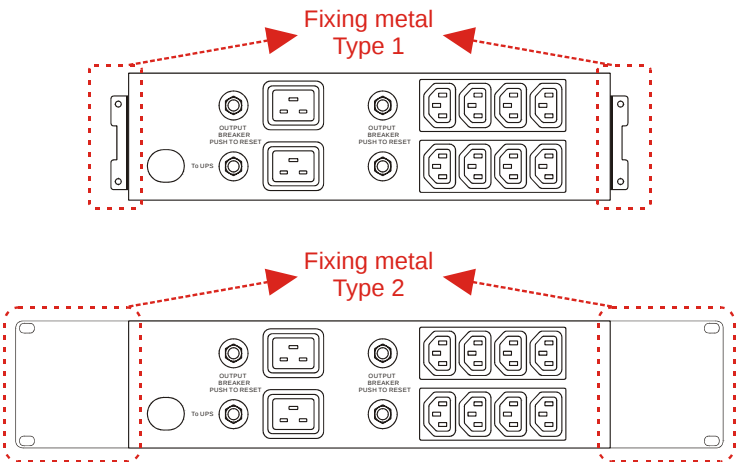

Figure 2: ESB Fixing Kits and their Installation
The ESB is specially designed for On Line 6KVA convertible UPS. Its installation procedures might be dependent on the Power Module or the Transformer Module GTM chosen. You may refer to Figure 2 and Chapter 5 for a proper installation.
- 5. Fasten the fixing kit onto the ESB as Figure 2.
- 6. Fasten the fixing kit #1 to the Battery Module or the fixing kit #2 to the Rack Cabinet as figure 2.